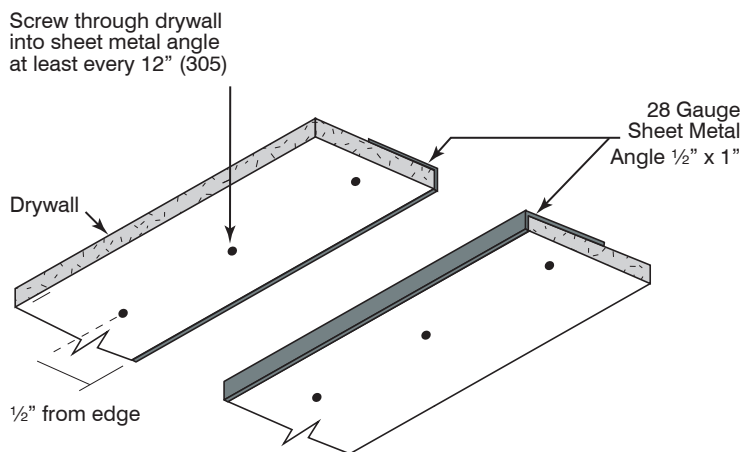

Figure 1
1. Install a 28 gauge sheet metal angle 1/2" x 1" on edge of drywall opening on the inside of ceiling or wall and screw drywall screws 1/2" from the edge at least every 12" apart. See Figure 1.